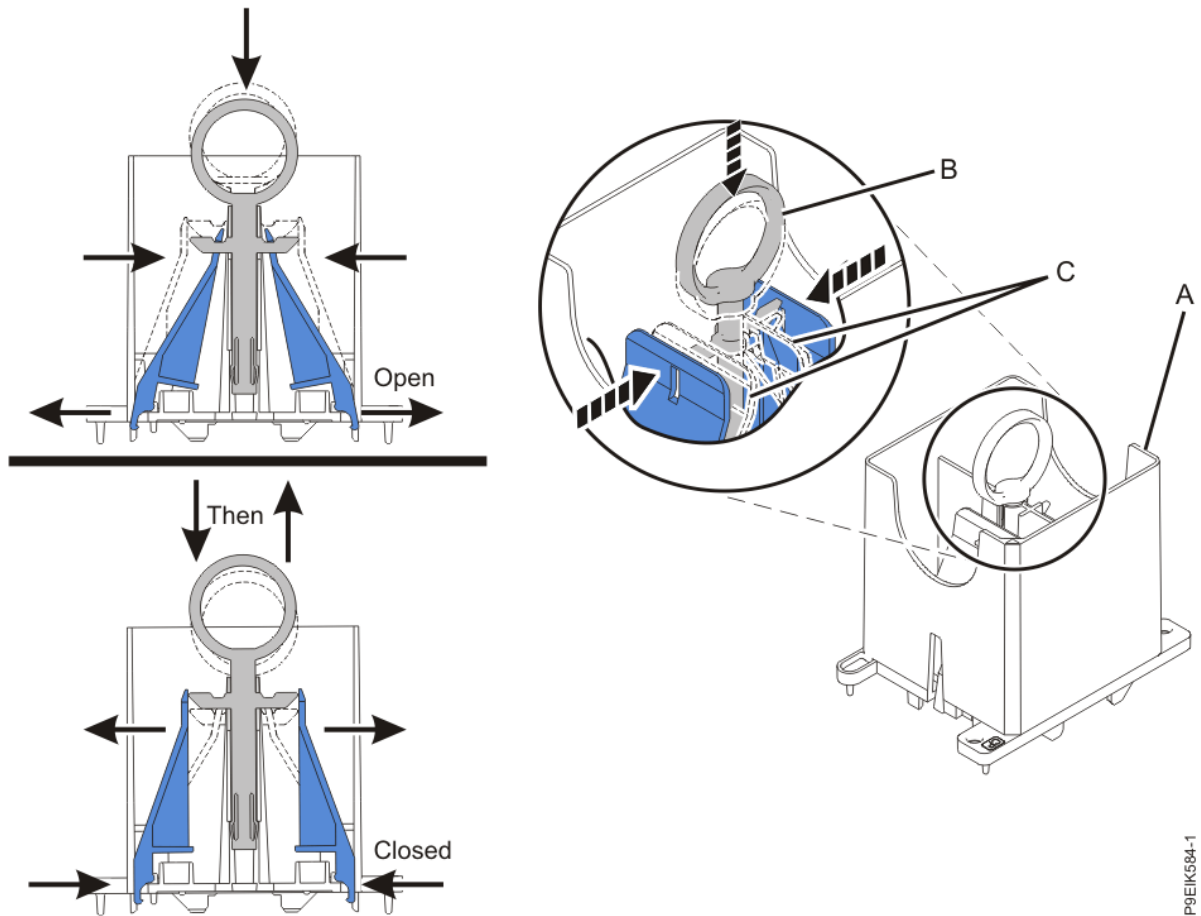

Figure 14. Ensuring that the removal tool is in the open position
- a) Ensure that the removal tool **(A)** is in the open position as shown in Figure 14 on page 17. The middle ring **(B)** must be pushed down and blue tabs **(C)** must be turned inward.